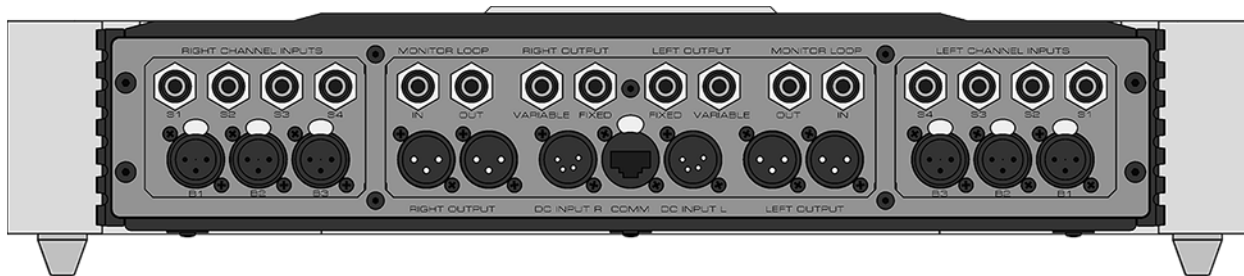

Figure 3: Rear panel of the MOON 850P Preamplifier
The rear panel of the **MOON 850P** dual-mono preamplifier will look similar to Figure 3 (above). There are two rows of connectors; the top row contains single-ended RCA inputs/outputs and the bottom row contains balanced XLR inputs/outputs, as well as the three input connections from the separate digital controller chassis. There are three (3) pairs of balanced inputs on XLR connectors (B1, B2, B3) and four pairs (4) of single-ended inputs on RCA connectors (S1, S2, S3, S4). As a result of this preamplifier's dual-mono design, the left channel inputs are located on the left side and the right channel inputs are located on the right side.